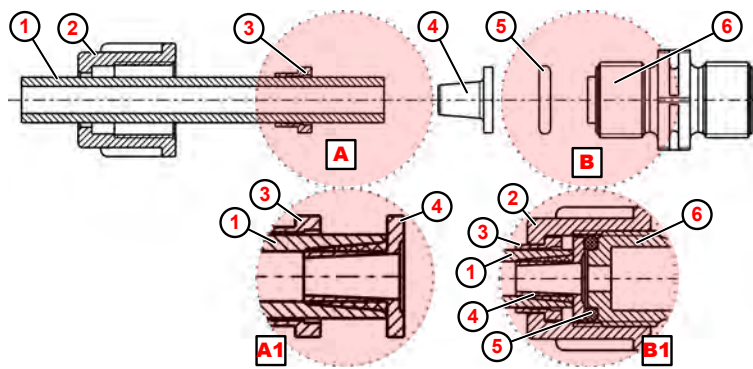

Fig. 5: Pipe-to-hose connection with tapered part
1. ➤ Cut off the hose with a straight cut (Fig. 5 , ①).
2. ➤ Slide the union nut ② over the hose ① .
3. ➤ Slide the clamp ③ over the hose ① .
4. ➤ Slide the hose ① onto the tapered part ④ up to the stop collar (for details, Ⓐ1).
5. ➤ Slide the tensioning piece ③ towards the tapered part ④ until you feel resistance.
6. ➤ Place the o-ring ⑤ in the groove of the suction or pressure valve ⑥ .
7. ➤ Tighten the union nut ② (for details, see Ⓑ1).